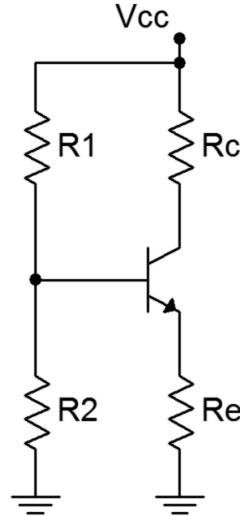

Figure 1
1. Consider the circuit of Figure 1 using $V_{CC} = 10$ volts, $R_1 = 10$ k Ω , $R_2 = 3.3$ k Ω , $R_E = 4.7$ k Ω and $R_C = 5.6$ k Ω . Using the approximation of a lightly loaded “stiff” voltage divider, determine the ideal end points of the DC load line and the Q point, and record these in Table 1.
3. Build the circuit of Figure 1 using $V_{CC} = 10$ volts, $R_1 = 10$ k Ω , $R_2 = 3.3$ k Ω , $R_E = 4.7$ k Ω and $R_C = 5.6$ k Ω . Measure the base, emitter and collector voltages and record them in the first row of Table 2 (Experimental). Compute the deviations between theoretical and experimental and record these in the first row of Table 2 (% Deviation).
- Build the circuit of Figure 1 in a simulator. Run a DC simulation and record the resulting transistor voltages in Table 6.